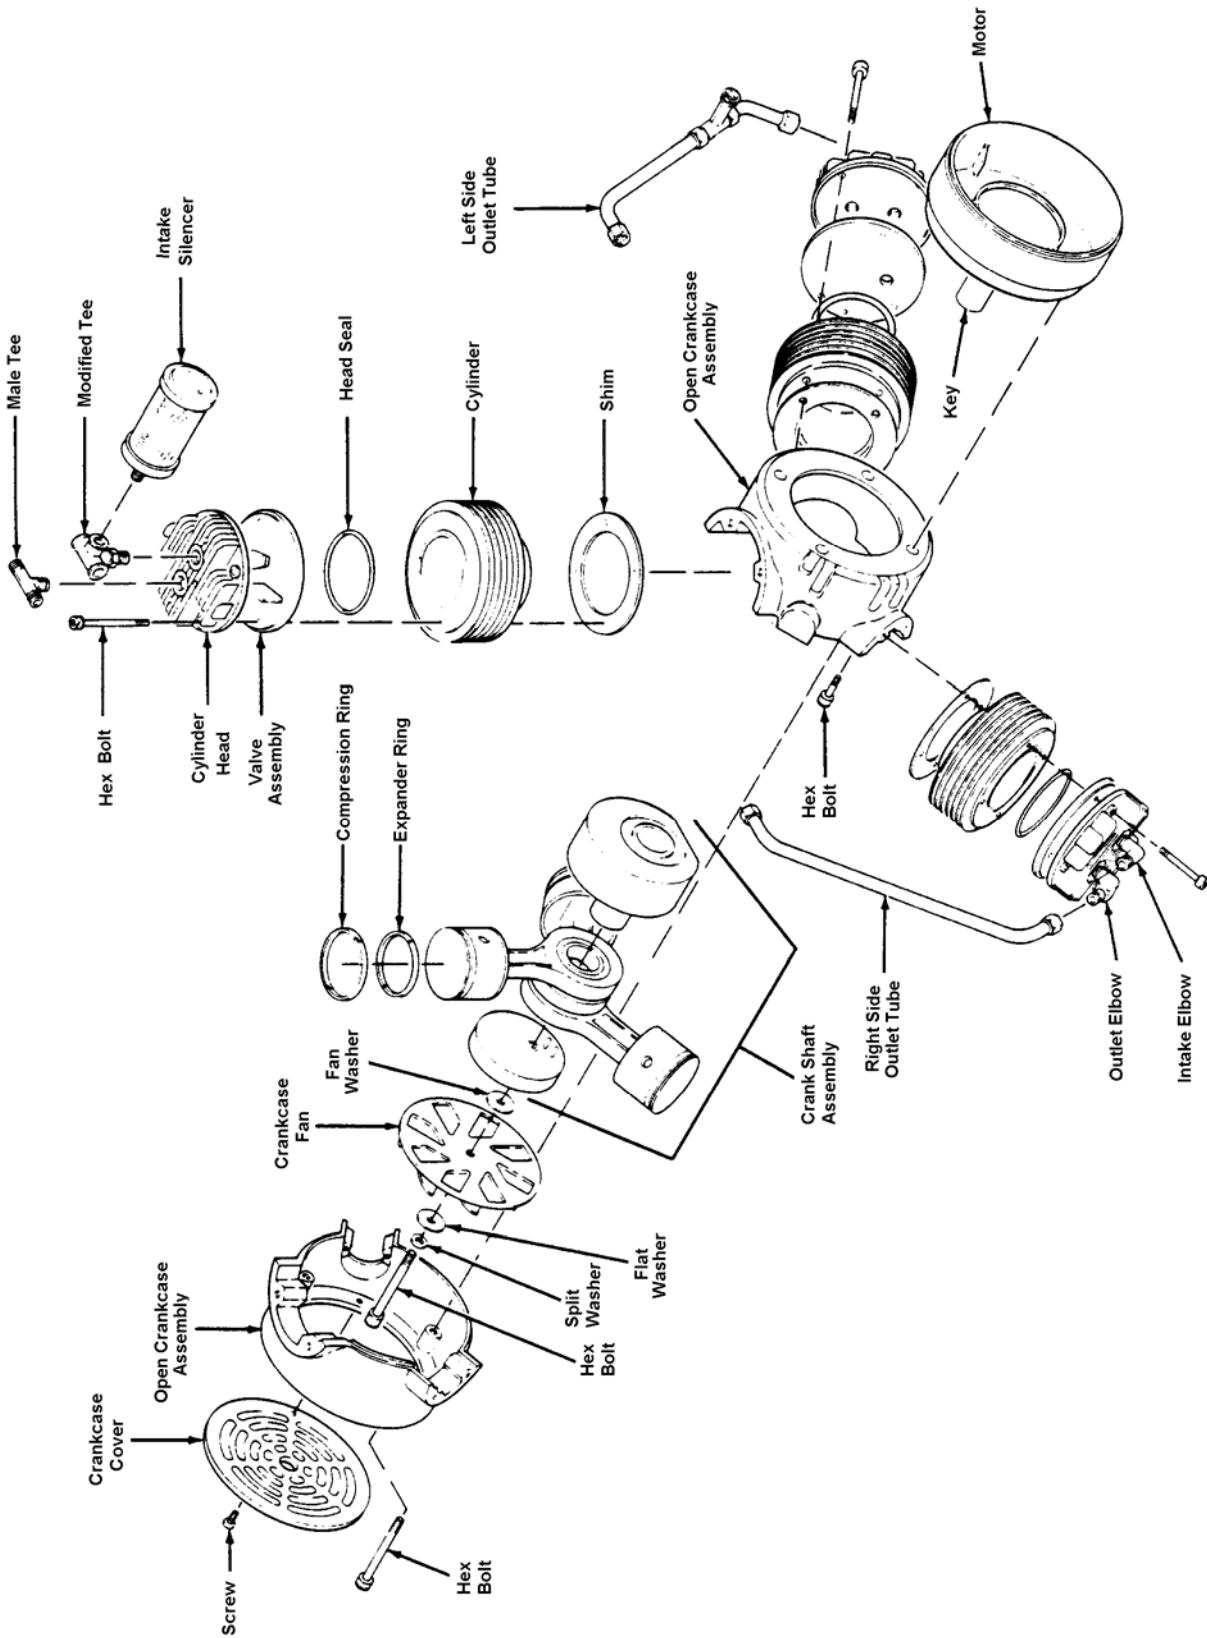

Figure 4-6. Motor and compressor assembly.
(2) If the dryness indicator is white or does not start to turn blue, drain the storage tank and allow the compressor to run for five to seven nights.
(3) If the dryness indicator still does not turn blue, replace the dryness indicator disk.
(4) If the disk does not remain blue, replace the drying chamber.
d. Disassemble and Repair the Motor and Compressor Assembly. To repair or replace any damaged or worn parts, you must disassemble the compressor assembly. Before disassembly, verify any suspected damage to the reed valves. Refer to figure 4-6.
(3) Remove any defective reed valves.
- (e) Assemble the cylinder head and the valve assemblies as shown in Figure 4-6.